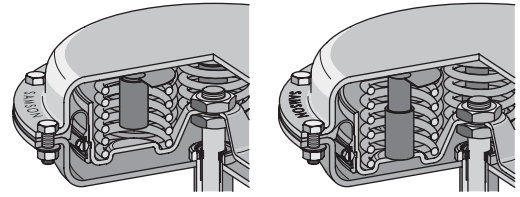

Fig. 11 · Fire-Lock version, in fail-safe position (right)
- **Type 3271/7** · **Fire-Lock version** (Fig. 11) fail-safe action in case of fire, diaphragm areas of 240, 350, 700 cm2